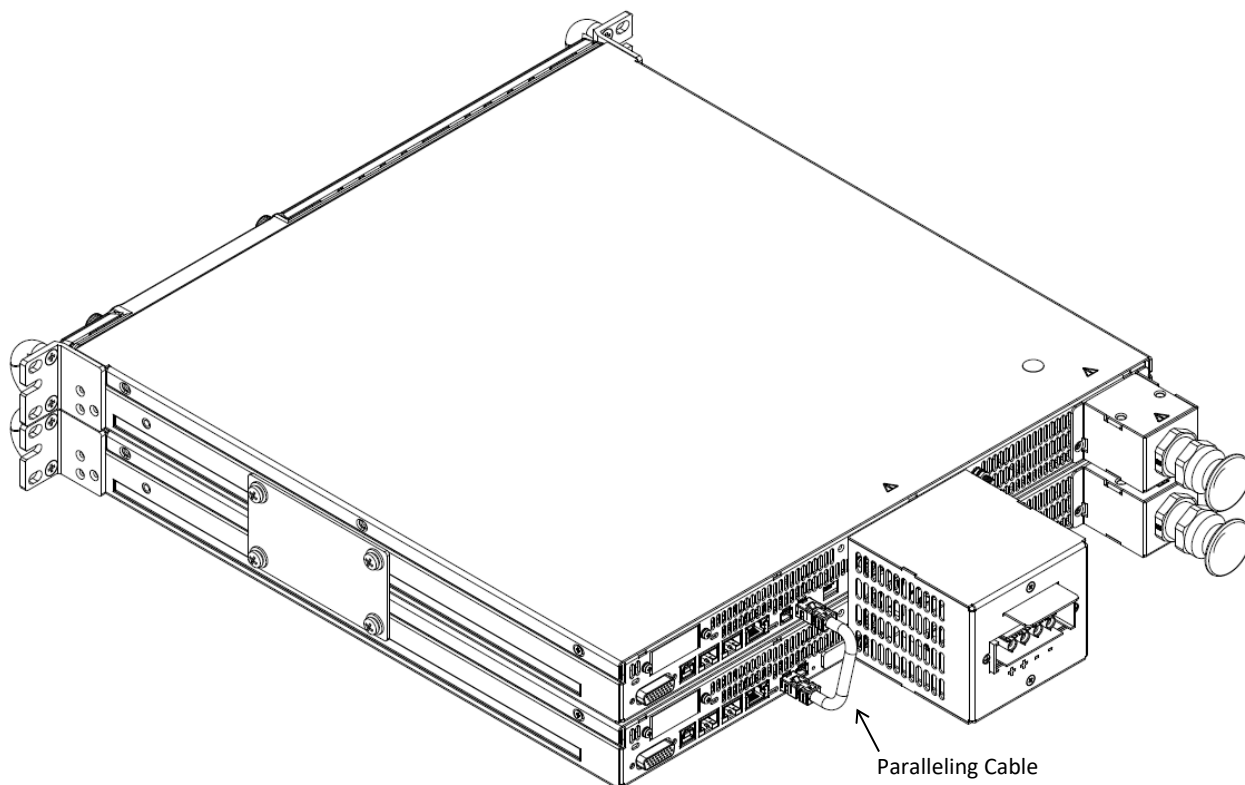

Figure 29: Two 150V-600V Units Paralleling Cable Connection
7. Connect paralleling cable from top unit M connector to bottom unit S connector as illustrated in Figure 29.